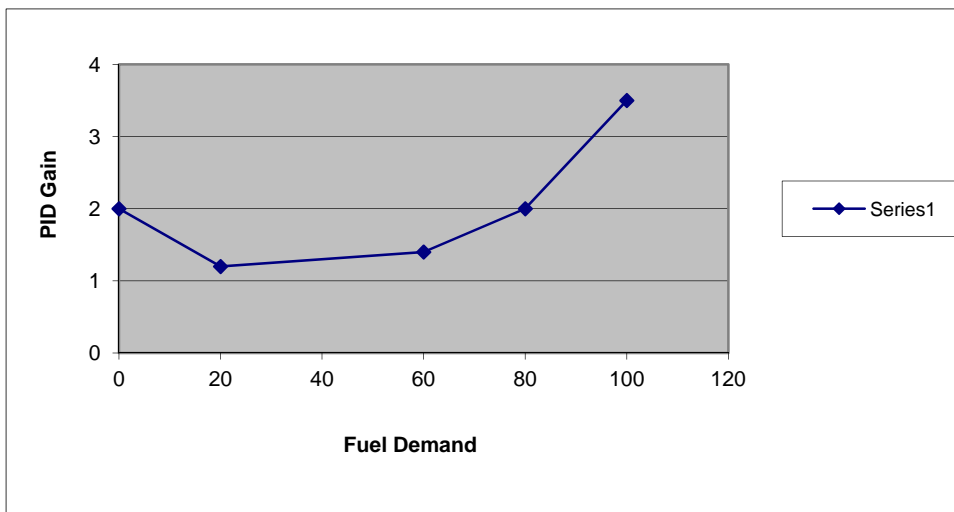

Figure 4-8. Linearized Gain Plot
Note that in both charts the valve position falls on a curve. The menu does not permit the construction of a curve. However, with four slope segments (5 breakpoints) available, a rough approximation of the curve can be created (see Figure 4-8).
Gain settings reflect the sensitivity of the engine load to fuel demand as shown in Figure 4-8. Flat portions of the engine plot will require relatively small values of gain, steep portions of the plot will require larger gain numbers (actuator has to move a lot to pickup small amount of load).
- d. Create a plot of the system by plotting PID GAIN as a function of load. A typical result is shown in Figure 4-8.
3. Use the plot of the engine to determine the linearity of the fuel system. This curve should be linearized between inflection points as shown in Figure 4-8.